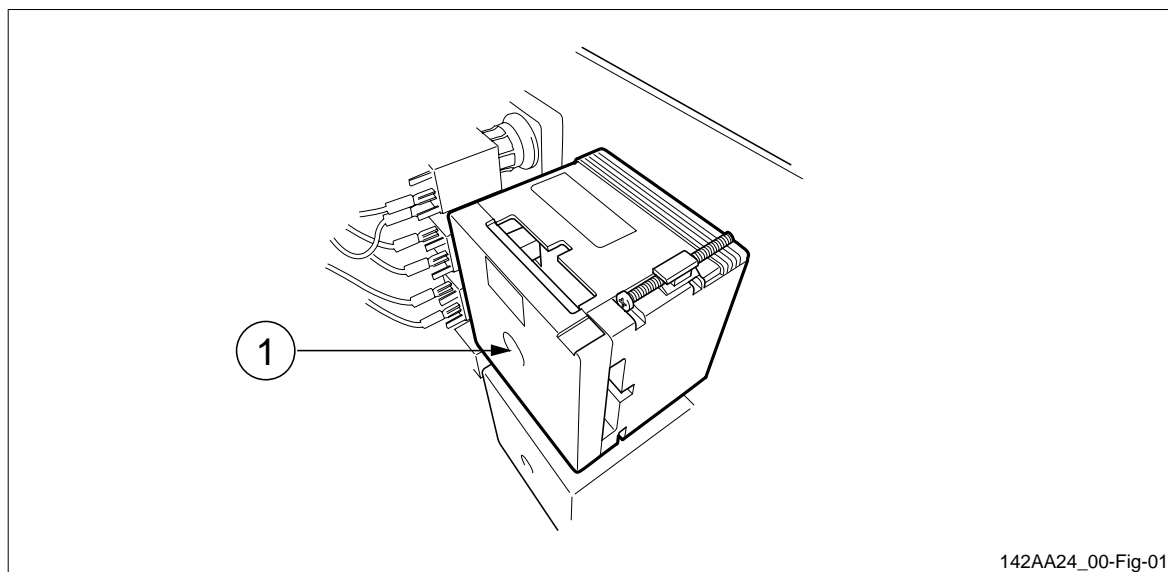

Figure 17 Pitch indicator backside in a bridge control panel.
1. By maximum input, or a known input, adjust the deflection of the instrument with the potentiometer on the indicator's backside, indicated in figure 17. The deflection can be adjusted within +/-10% of full-scale.